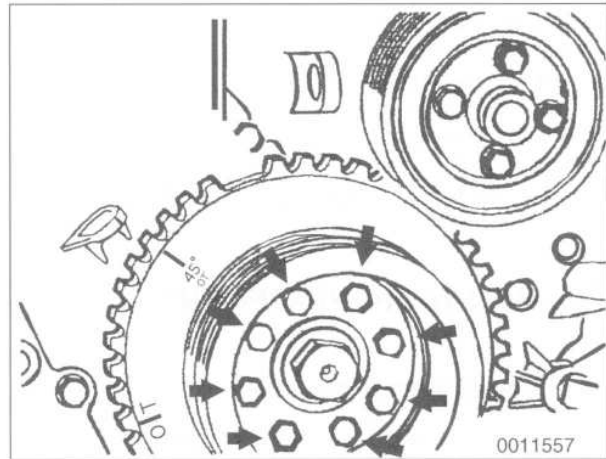

Fig. 14. Vibration damper mounting bolts (arrows) on M60 engine.
8. Remove vibration damper from crankshaft hub. See Fig. 14.